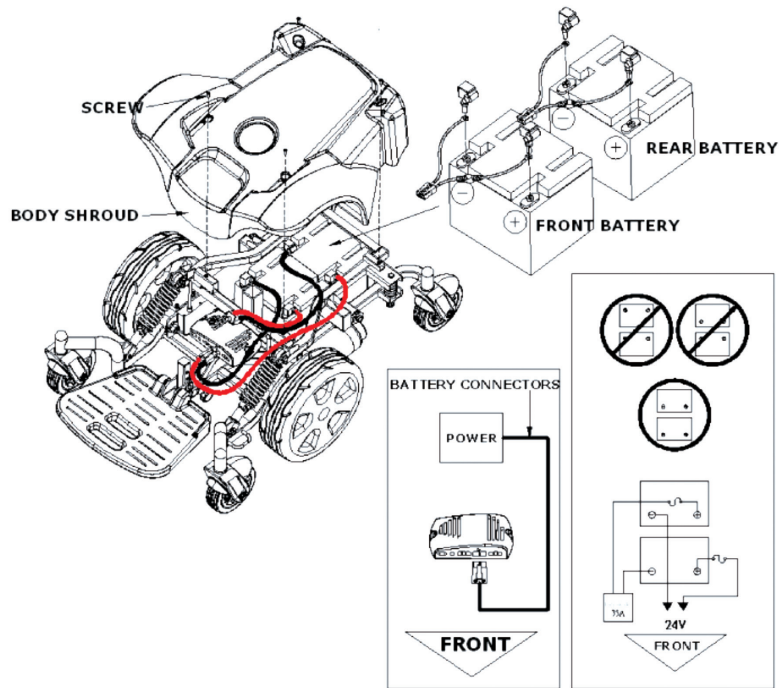

Figure 30. Batteries replaces
7. Install new batteries into the power base. Make sure the terminals of each battery are facing the front of the power chair. (See figure 30)
8. Connect the both battery cable. Make sure that the battery terminal hardware is facing the correct direction. (See figure 30)